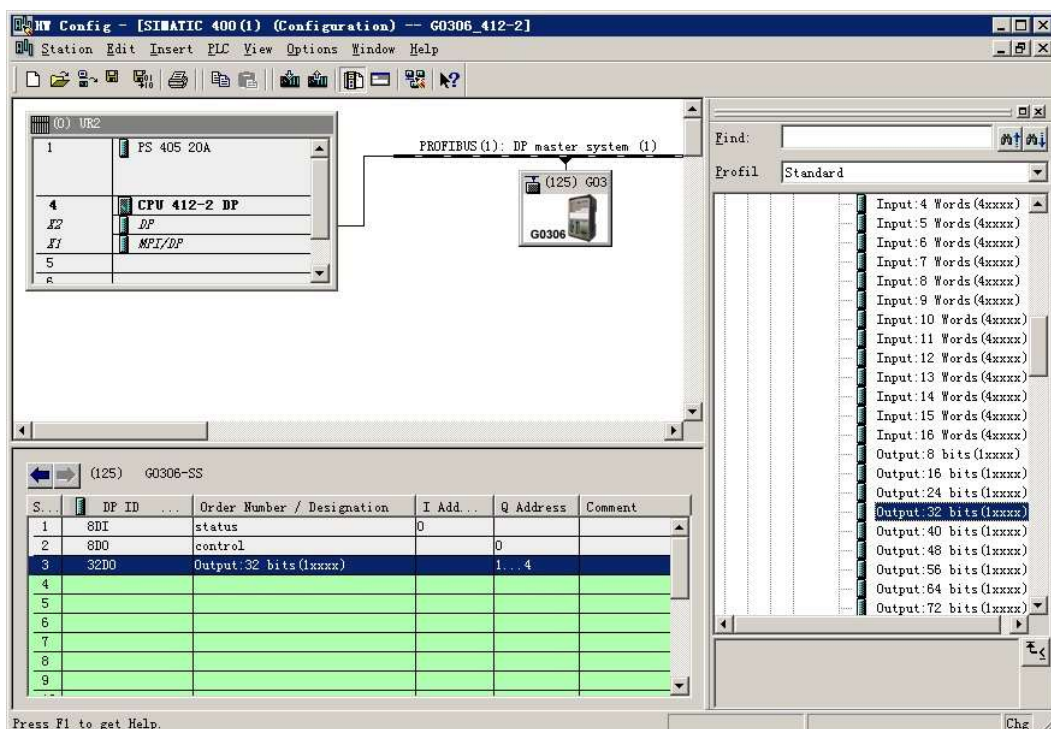

Figure 44 Add "Output:32 bits(1xxxx)" module
a) Add "Output:32 bits(1xxxx)" module, as shown in Figure 44: